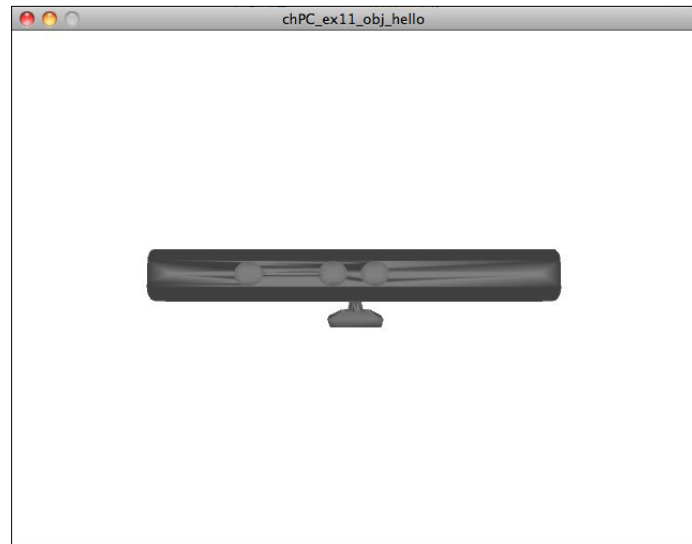

Figure 3-21. With virtual lights, our 3D model becomes visible.
7. After turning on the lights (Figure 3-21), our `draw` function continues to do a bit of translation and rotation. After the examples shown earlier in this chapter, you should be able to understand exactly what's going on here.